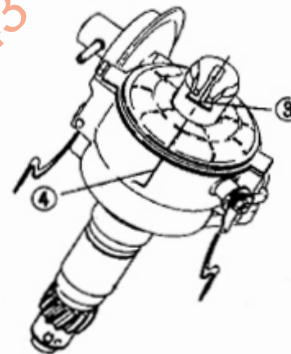

Fig. 8-18
- 2) Remove the distributor cap. Turn the rotor to make the center ③ of rotor flush with mark ④ embossed on the distributor housing, as shown in Fig. 8-18.